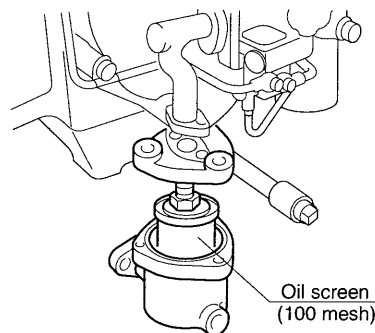

Fig. 40
- (1) Oil screen blocks coarse dirt. (Fig. 40)